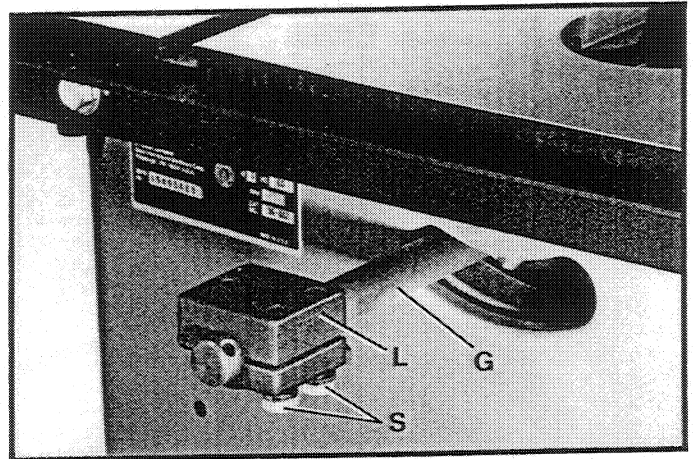

Fig. 40
7. Assemble lower bracket (L) Fig. 40, to rod (G) and snug-up with two one-inch long hex head screws (S) and lockwashers from underneath bracket (L).